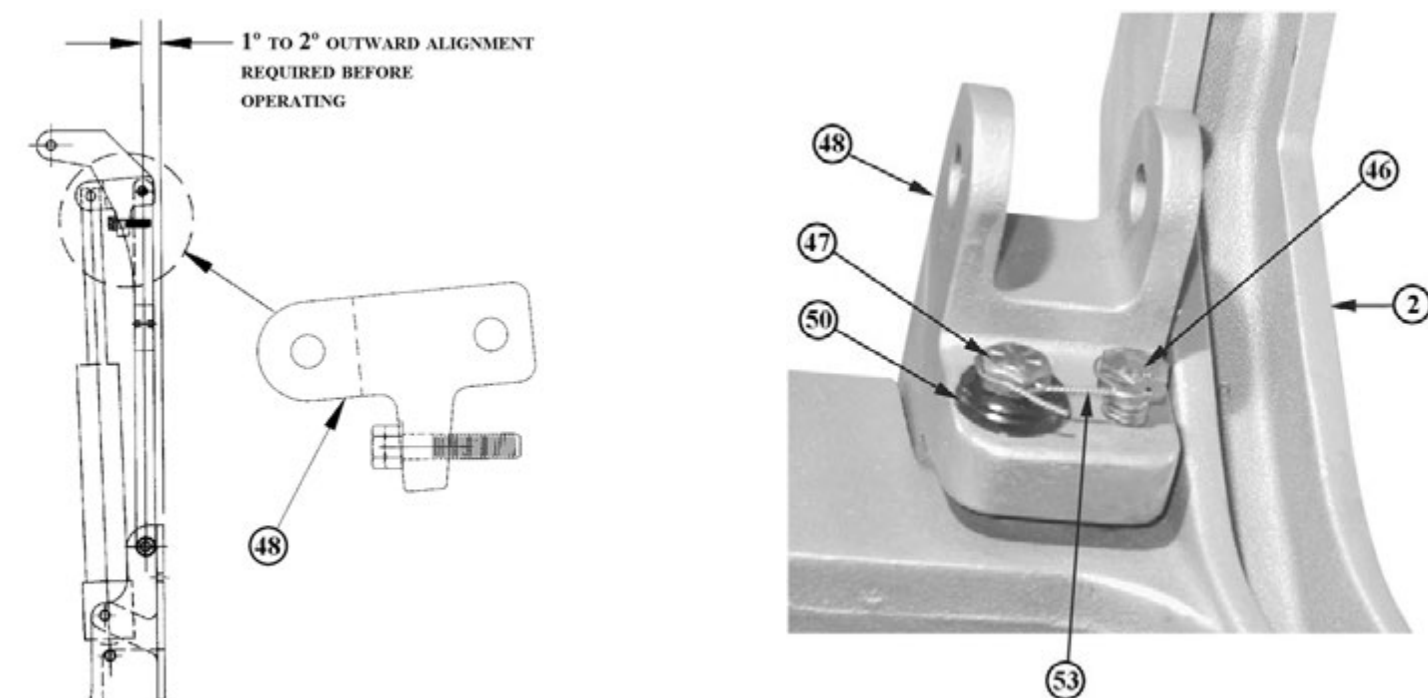

FIGURE 1
1. Actuator Retainer Adjustment (see Figure 1, page 11)
- a. Check hex head bolts (items 46 and 47) to see if either one is loose. If one or both are loose, proceed as follows. If they are tight, proceed to Section VI. D. 2.
1. Actuator retainer adjustment (Figure 1, page 11)
1. Actuator retainer casting (item 48, pages 14 and 15) - If either bolt is loose, refer to adjustment directions (VI. D. 1., page 9 and Figure 1, page 11).